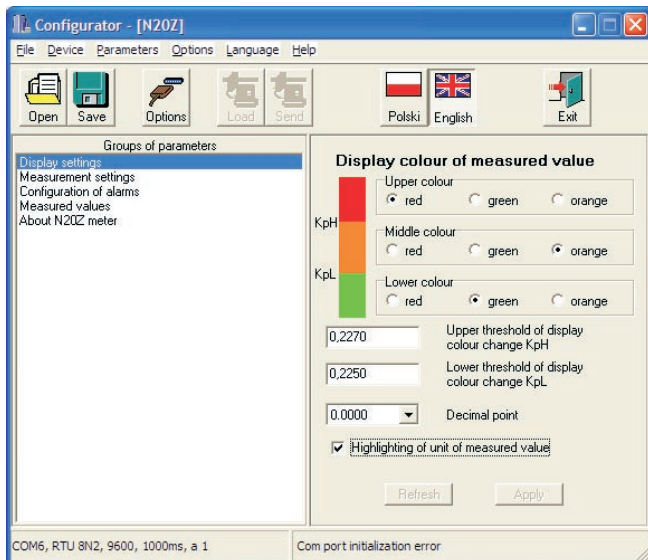

Fig. 7. View of the window of display parameter configuration
- a) display colours of the measured value. The displayed range is divided into three zones separated by KpL and KpH threshold values (suitably the lower threshold KpL and the upper threshold KpH of display colour change – fig. 7). The colour of displayed numbers for each zone is selected from three accessible colours: green, orange and red. KpL and KpH values are set by the user and concern the displayed value (i.e. taking also into consideration the individual characteristic). The manufacturer value KpL is equal 100% of the rated value, however KpH is equal 110% of the rated value, e.g. for a meter of 400 V execution they are respectively: for KpL – 400 V and for KpH – 440 V.